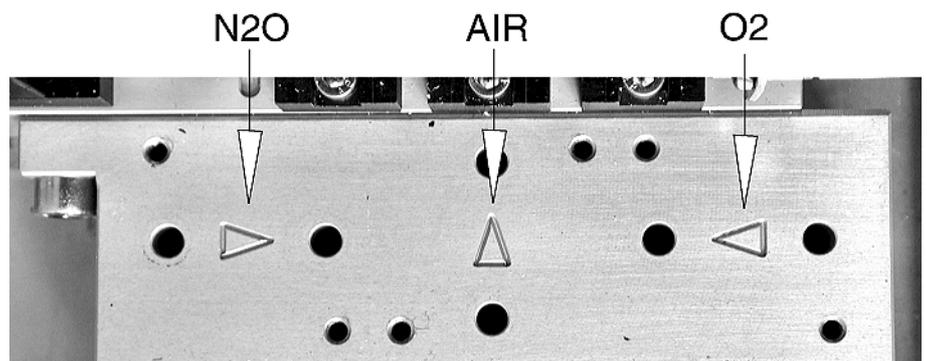

Figure 23 Predominant position of the pressure regulators
5. Place the respective pressure regulator onto the gas inlet block such that the arrow on the pressure regulator points in the same direction as the arrow on the gas inlet block (from the inlet to the outlet in each case, see also Figure 23). The inlet and the outlet are also marked on the underside of the pressure regulator (1 = inlet, 2 = outlet).